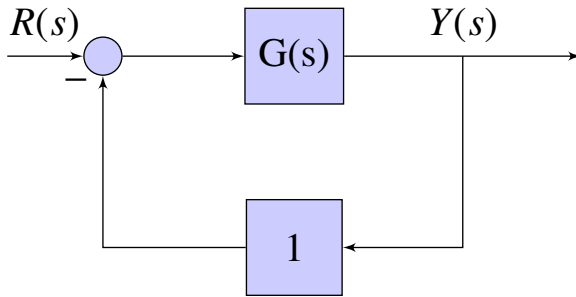

Fig. 1.1
1.1. For a unity feedback system shown in Fig. 1.1